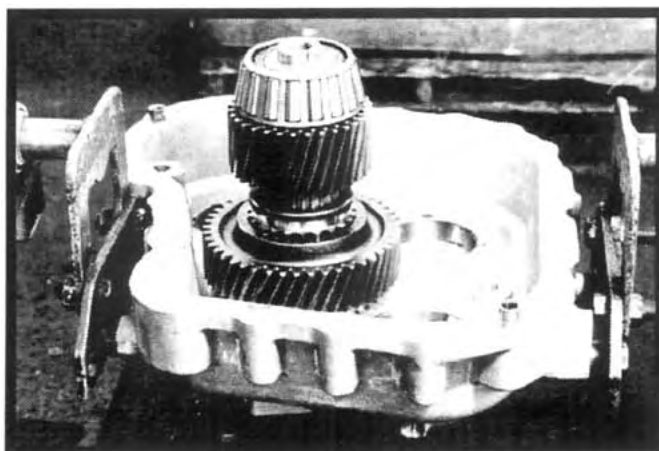

Figure 6.30
6. Lower the intermediate shaft subassembly into place (larger gear down). See Figure 6.30.